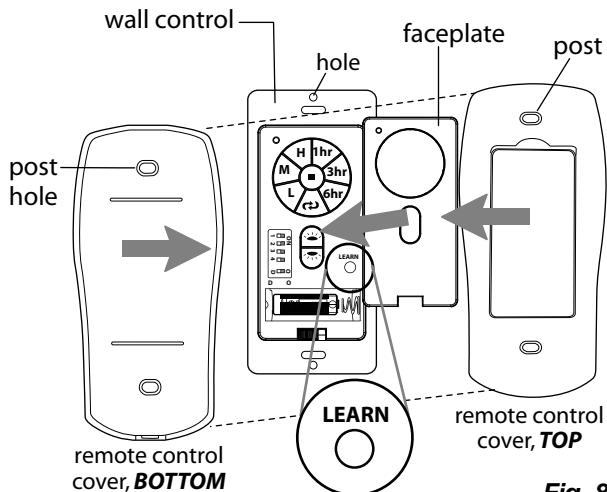

Fig. 8
- E. Align holes in wall control with posts located on inside of TOP part of remote control cover and press together firmly. Carefully tuck each wire into the back of the wall control to enable it to fit inside the remote control cover. Place BOTTOM part of remote control cover over wall control, aligning posts in top of remote control cover with post holes in the bottom. (*Note narrower ends of remote control cover before closing.*) Squeeze top and bottom of remote control cover together until you hear a click at each end, indicating that the remote control cover has closed completely. (See Fig. 8)
- A. **Restore electrical power** and then, if using wall control, set slider switch on wall control to the ON position. Within 60 seconds of turning on the wall control, press and hold the **LEARN** button on the wall control for 5 seconds or until the fan switches to MEDIUM speed. (See Fig. 8)
- B. **Turn power OFF again for at least 5 seconds** and then turn power back on. Within 60 seconds of restoring the power, press and hold the **LEARN** button on the handheld remote control for 5 seconds to synchronize remote to fan. (See Fig. 8)
- D. Attach **black faceplate** to front of wall control; press down firmly. (See Fig. 8)